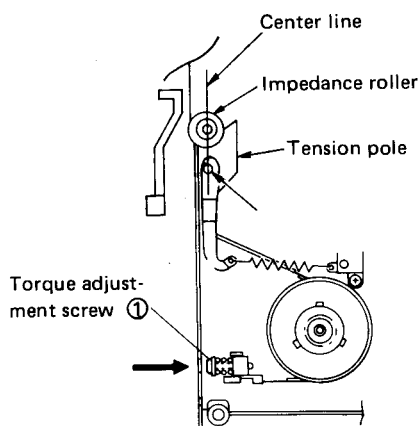

Fig. 2-5-5 Phase adjustment of tension pole
Load the mechanism with a cassette and set it for the playback mode. Then, confirm that centers of the tension pole assembly and the impedance roller are in a straight line to the front of the deck (in the direction of the cassette housing). See Fig. 2-5-5.
Note: Torque can be adjusted by turning the torque adjustment screw ① (Fig. 2-5-5), namely, torque increases by turning it clockwise while decreases by counter-clockwise turning.